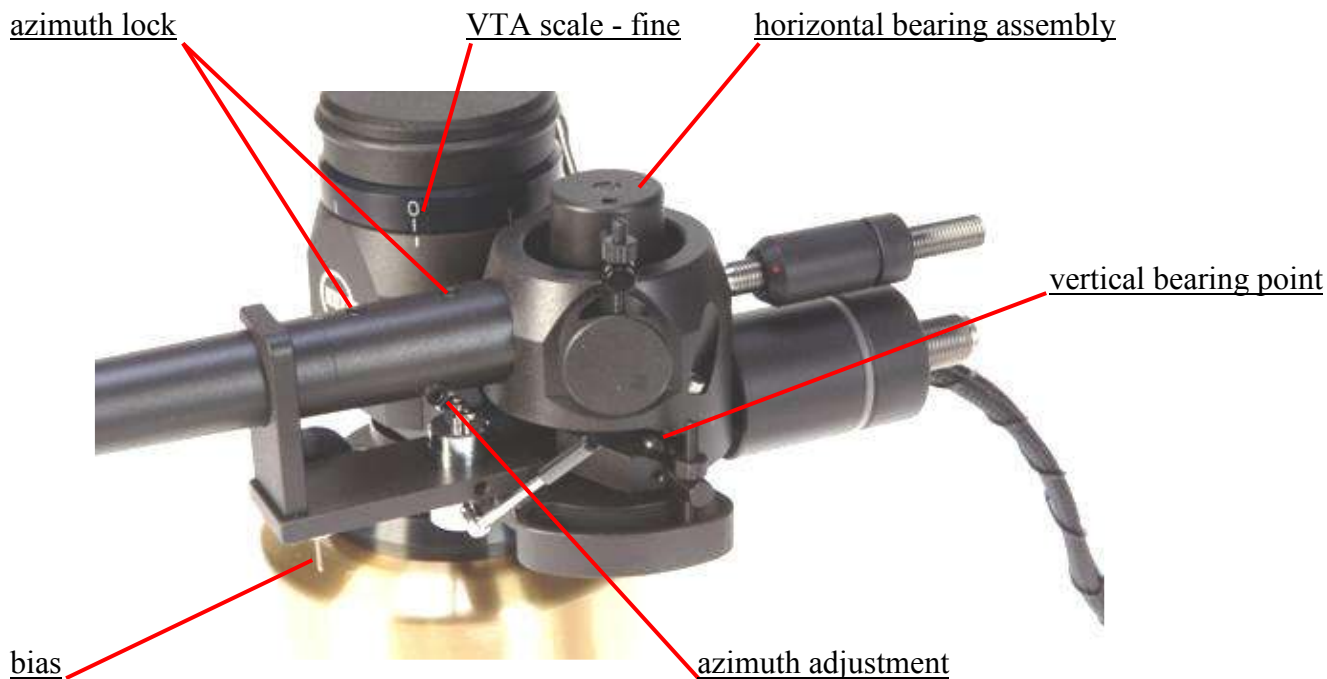

Fig. 2
Carefully take the tube assembly with cable (there is also a heavy connection box) and gently position it around the horizontal bearing assembly so that **both** two points will fit into the appropriate bearing cups. Position it into the armrest. (Fig. 2&4)
Fix cartridge pins. Add counterweights to the lower threaded carrier, starting with the longest counterweight, then a plastic ring and another counterweight, until the tonearm is roughly balanced. Be sure to fit the plastic rings that separate counterweights and, at the same time, allow them to fit together. (See Fig.2 and counterweight configuration)
If this is too loose, hold the front part of the counterweight and rotate the rear part until there is a tighter fit, or lock it into position on the threaded carrier. Opposite rotation will make the smaller counterweight looser. (Fig. 2)
To make azimuth adjustments, release the two screws locking the mechanism at the centre top of the main tonearm tube, with Allen key 2mm. Under the main tube is a tiny rod with a hexagonal screw. Insert the Allen key 2 mm into the screw (it may feel loose), rotate it slightly and it will alter the azimuth. (Fig.2)